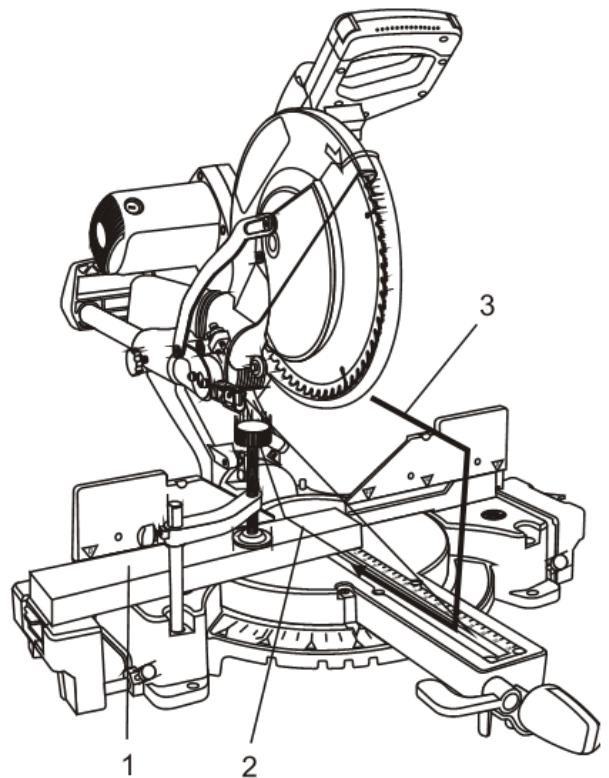

Fig. 24
1. Clamp a scrap workpiece such as a 2x4 (1) onto the base, leaving approximately 2" to be cut off (Fig. 24).